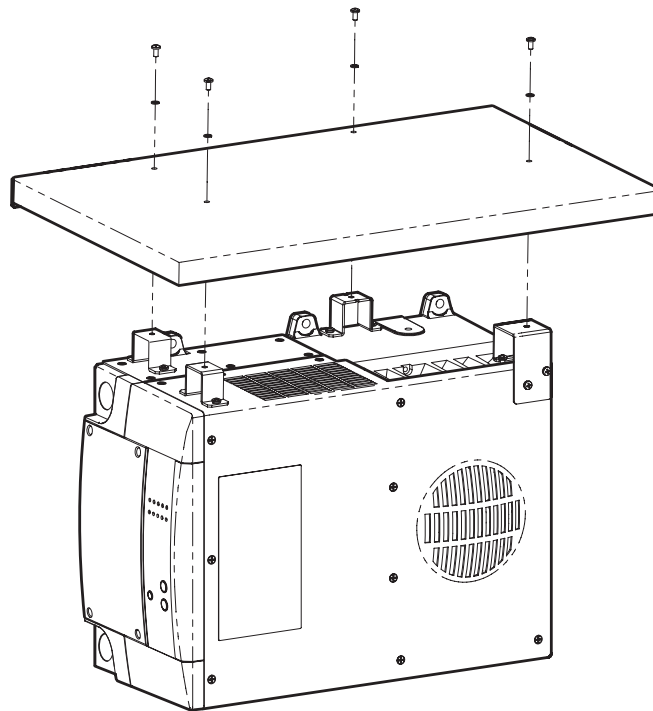

Figure 2 MS3000 Installation
1. Mount the unit in the orientation shown in Figure 2. See the RS3000 Sine Wave Inverter/Charger Installation Manual (Part number: 975-0171-01-01) for additional AC and DC wiring considerations.
3. Screw the drip shield to the top of the unit as shown in Figure 2.